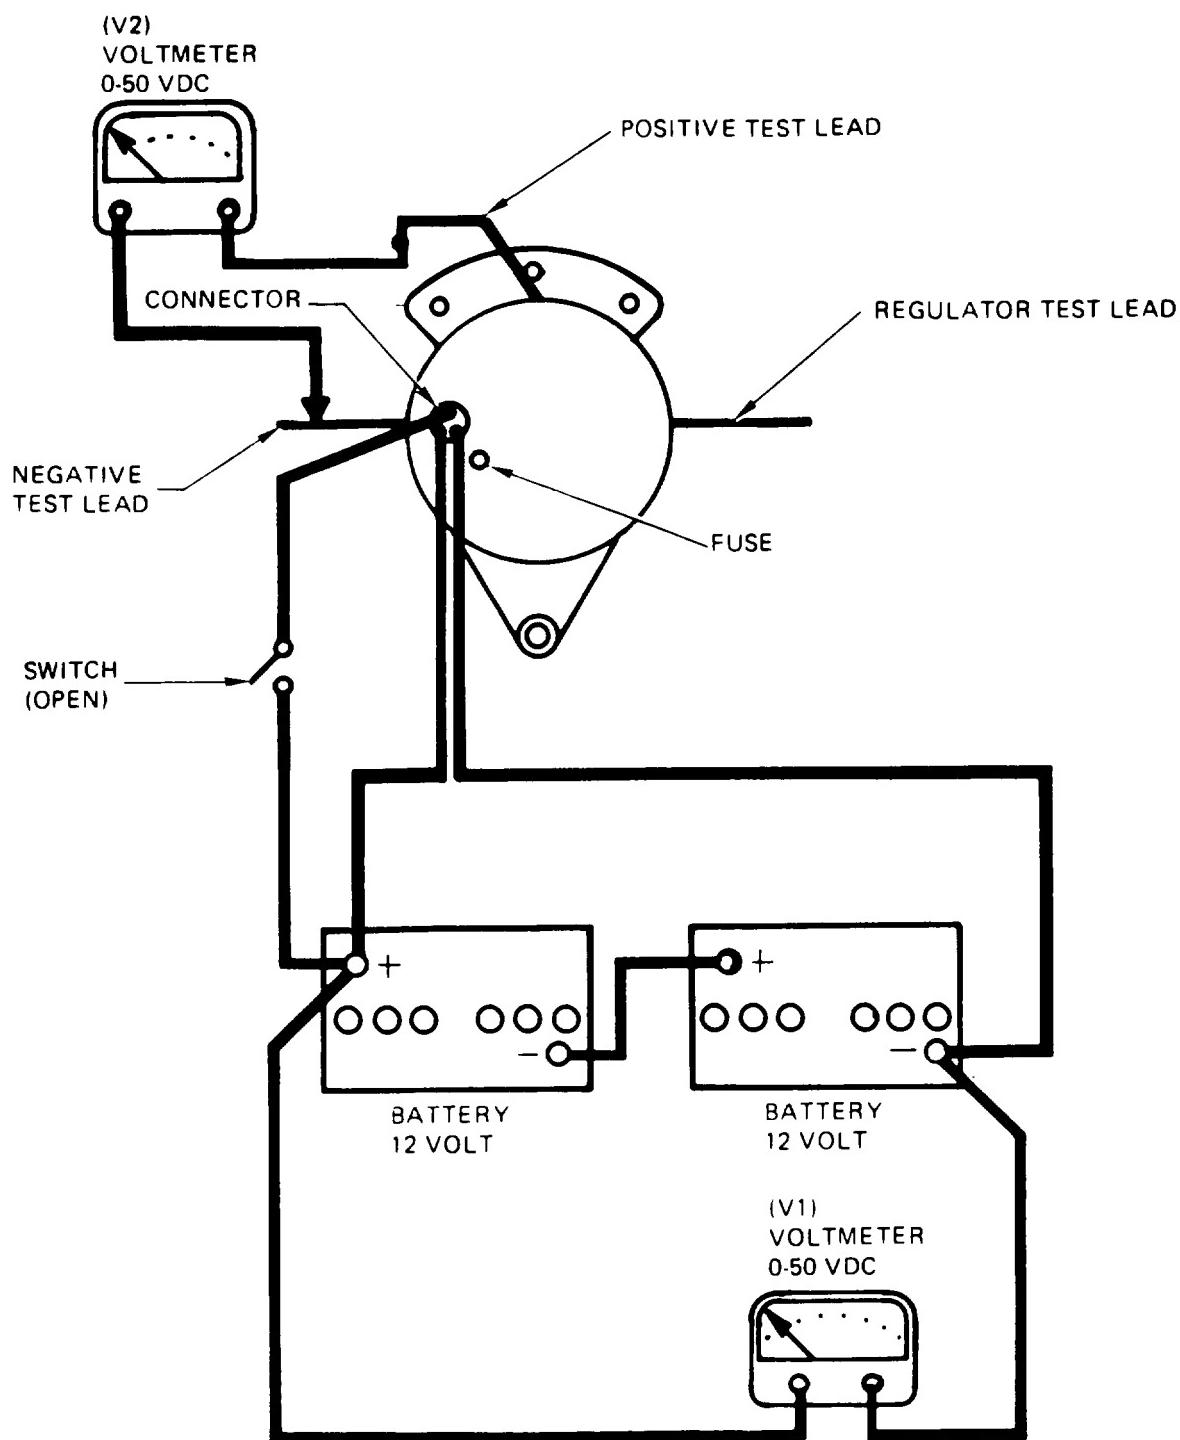
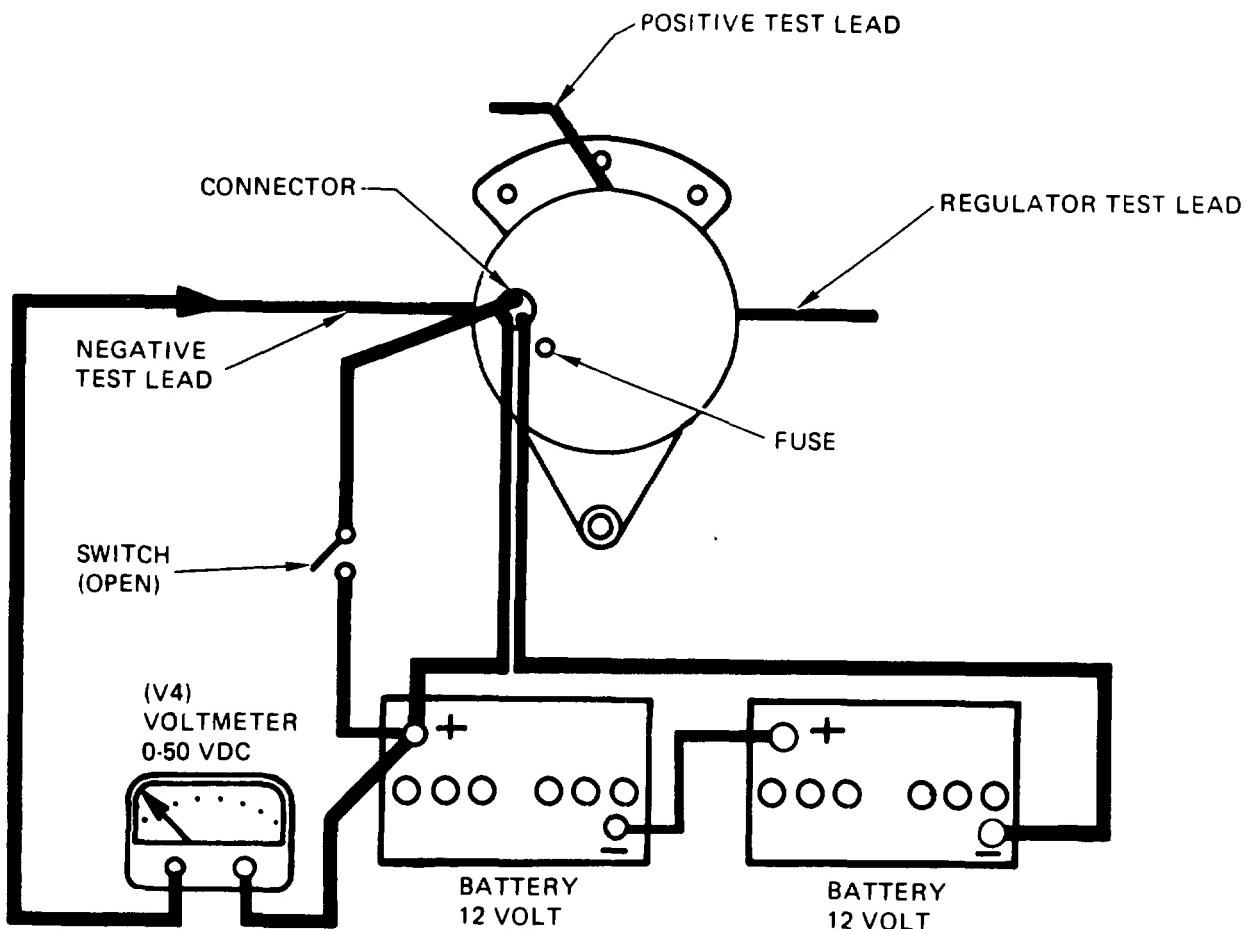
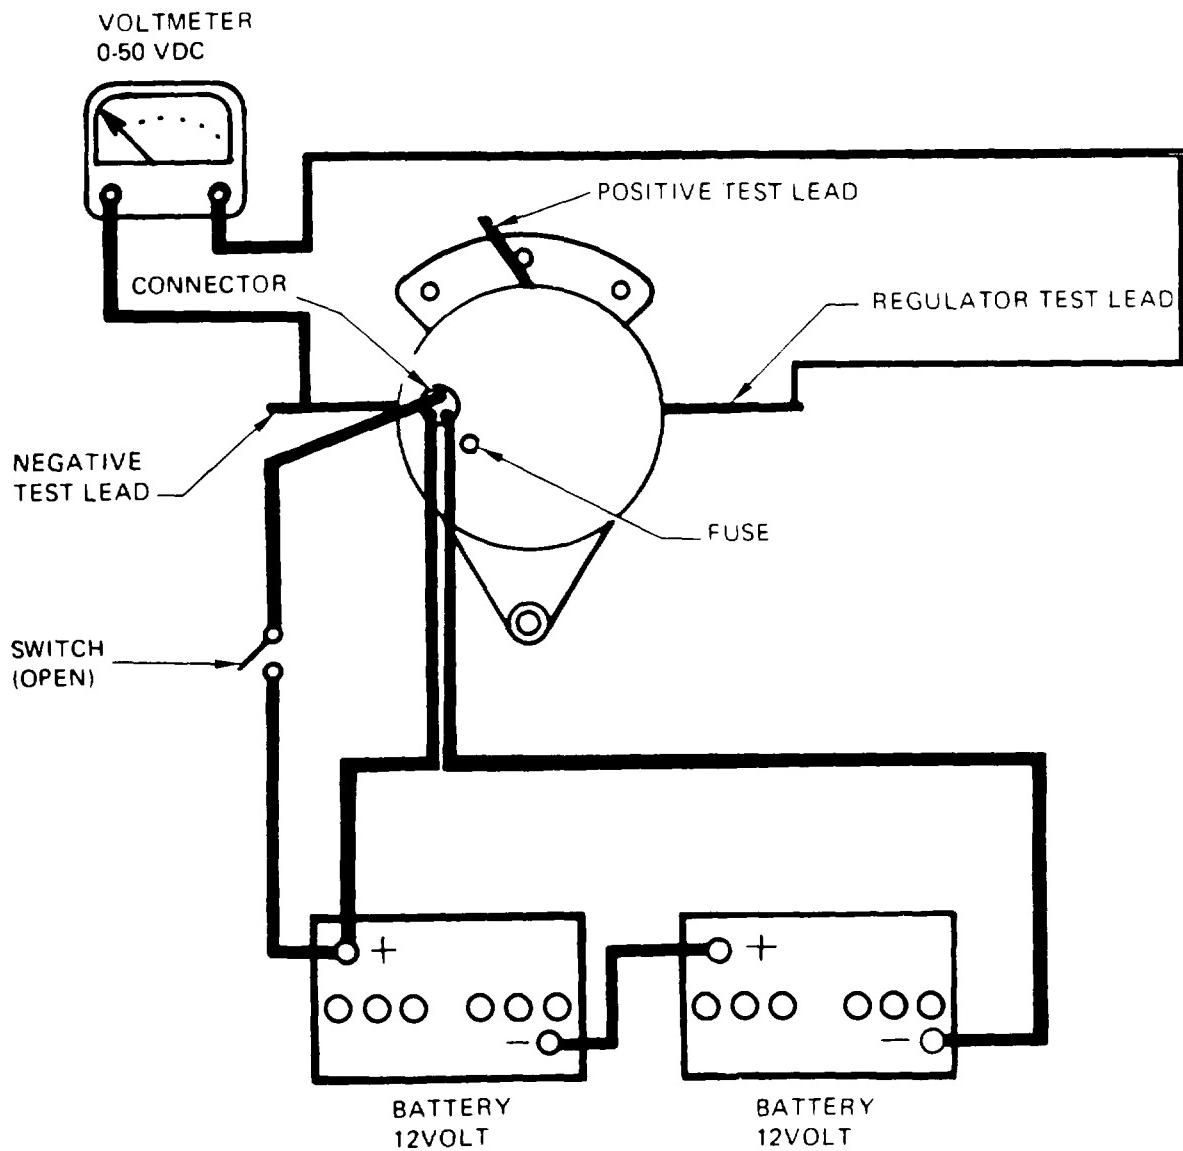

Figure 3-8. Total Circuit Voltage Test
Figure 3-10. Alternator Negative Output Circuit Test
Figure 3-11. Excitation Voltage Test
- (c) If voltage is greater than zero, but below voltage V1 in figure 3-8, check for poor circuit conditions between battery positive terminal and alternator positive output terminal.
- (e) If voltage indicated is equal to voltage V1, test alternator negative output circuit as directed in step (5) below.
- (5) Test alternator output circuit as follows:
- (a) Check voltage V4 as indicated in figure 3-10.
- (b) If voltage is below voltage at V1 (figure 3-8), check for inadequate circuit conditions between battery negative terminal and alternator negative output terminal.
- (6) Conduct excitation voltage test as follows:
- (a) With voltmeter connected as in figure 3-11, close switch.
- (c) If voltmeter indicates zero volts, test voltage regulator as directed in step (8) below.
- (d) If voltmeter indication is greater than 3.7 Vdc, test for open circuit of alternator field (rotor) as directed in step (9) below.
- (e) If voltmeter indication is as specified, proceed with voltage regulator, alternator output, and voltage protector test as outlined in step (10) below.
- (7) Test for faulty alternator voltage regulator as follows: